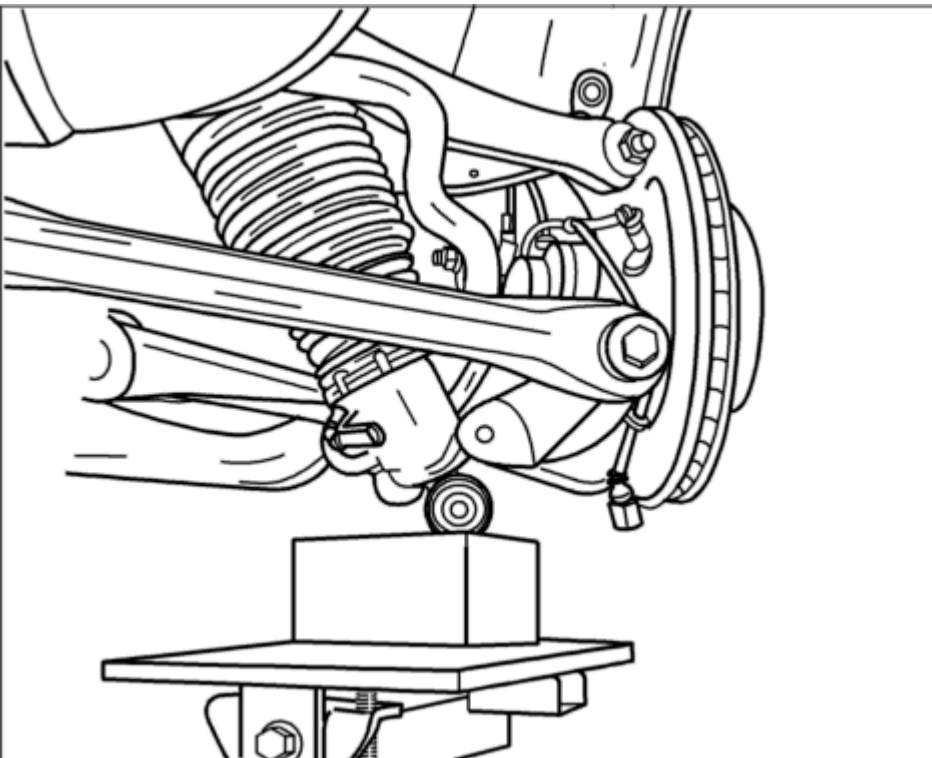

Fig. 74: Raising air spring strut using a suitable lift with rubber base
3. Carefully raise the air spring strut using a suitable lift with rubber base. Then, pull the wheel carrier downwards in order to fit the fastening screw. See **Fig. 74**.